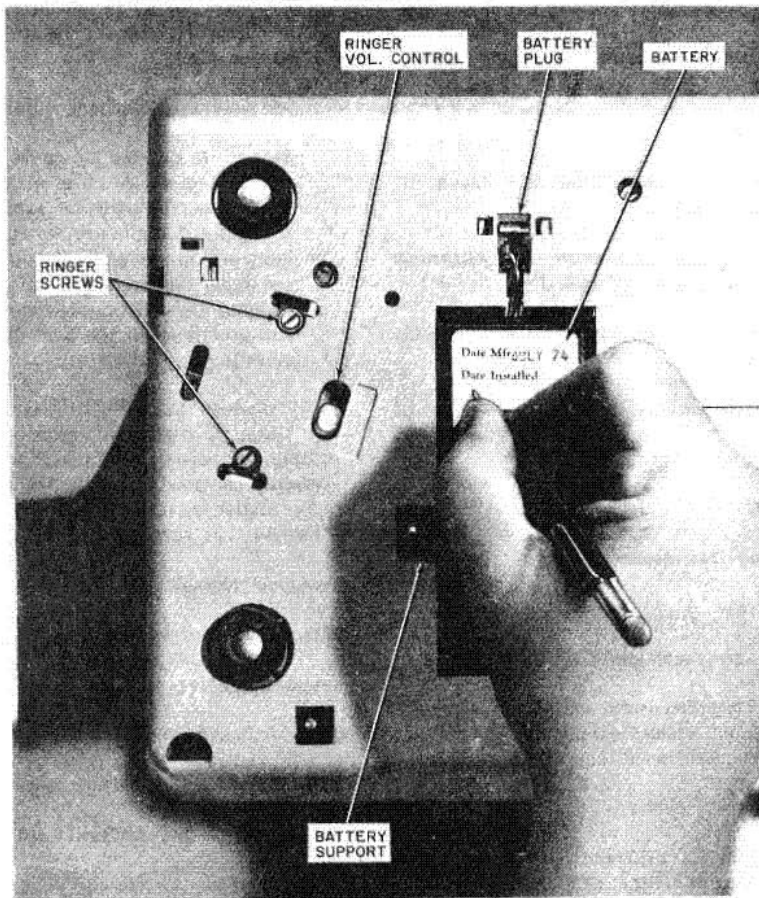

Fig. 6—872A1M Telephone Set, Bottom View
- (c) Under the telephone set (Fig. 6):
**6.03** The KS-20390L4 or L2 battery has an expected life of about 4 years. It can be replaced without loss of memory provided commercial ac power to the set is continuously maintained. To replace the battery, proceed as follows (Fig. 6).